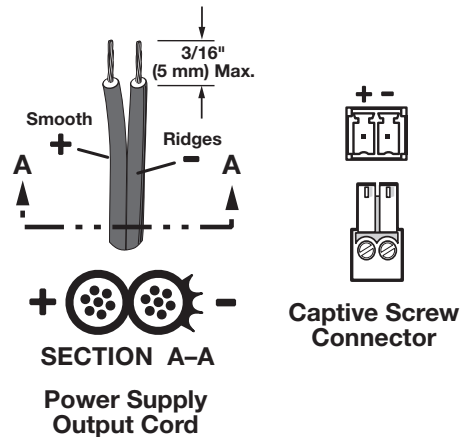

Figure 32. Power Connector Wiring
- Power supply voltage polarity is critical. Incorrect voltage polarity can damage the power supply and the unit. The ridges on the side of the cord (see figure 32) identify the power cord negative lead.